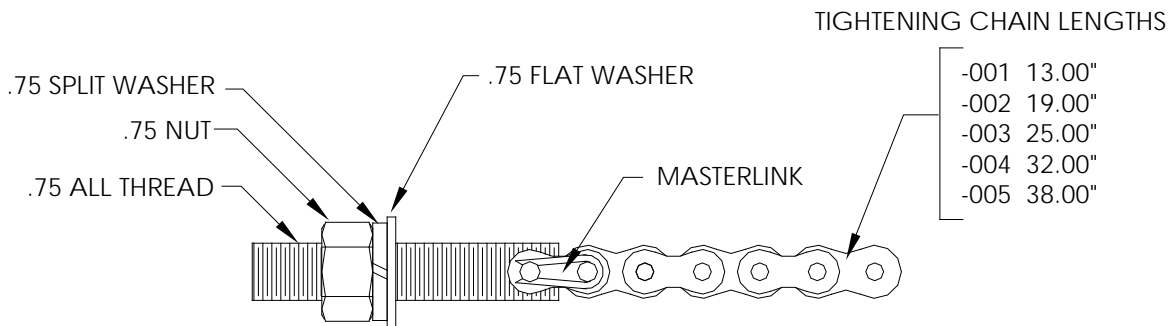

Figure 3-11 ENC82L-Adjustment Assembly
- 7) Remove nut and washers from adjustment assembly if necessary (see Figure 3-11).